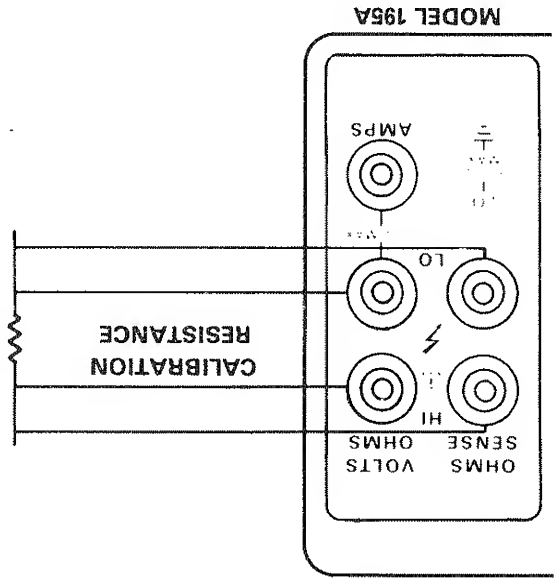

Figure 7-3. Connections for Calibration of 20 Ω and 200 Ω Ranges
2. Connect the calibration resistance to the VOLTS OHMS terminals. See Table 7-5 for recommended values. Use the 4-terminal connections shown in Figure 7-3 for calibration on the 20 Ω and 200 Ω ranges. The 2-terminal connections shown in Figure 7-4 may be used for all ranges if zero is left enabled.